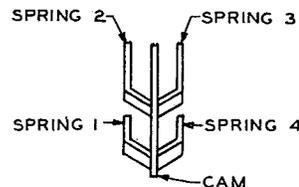

FIG. 54 - SEQUENCE SWITCH SPRING NUMBERING AS VIEWED FROM THE FRONT (SPRING SIDE) OF THE SWITCH
3.14 The information for connection to sequence switch springs contains the spring number and the cam's letter designation. For example, SS2-Q indicates sequence switch spring 2 (left outer) of cam Q. SS4-L indicates sequence switch spring 4 (right inner) of cam L. Where more than one sequence switch is employed in a circuit, the cam designations include the sequence switch number. For example, Q-2 indicates cam Q of number 2 sequence switch. The numbering of sequence switch springs in this case is SS2-Q-2, SS4-Q-2, etc. See Figs. 54 and 55 for the method of numbering.